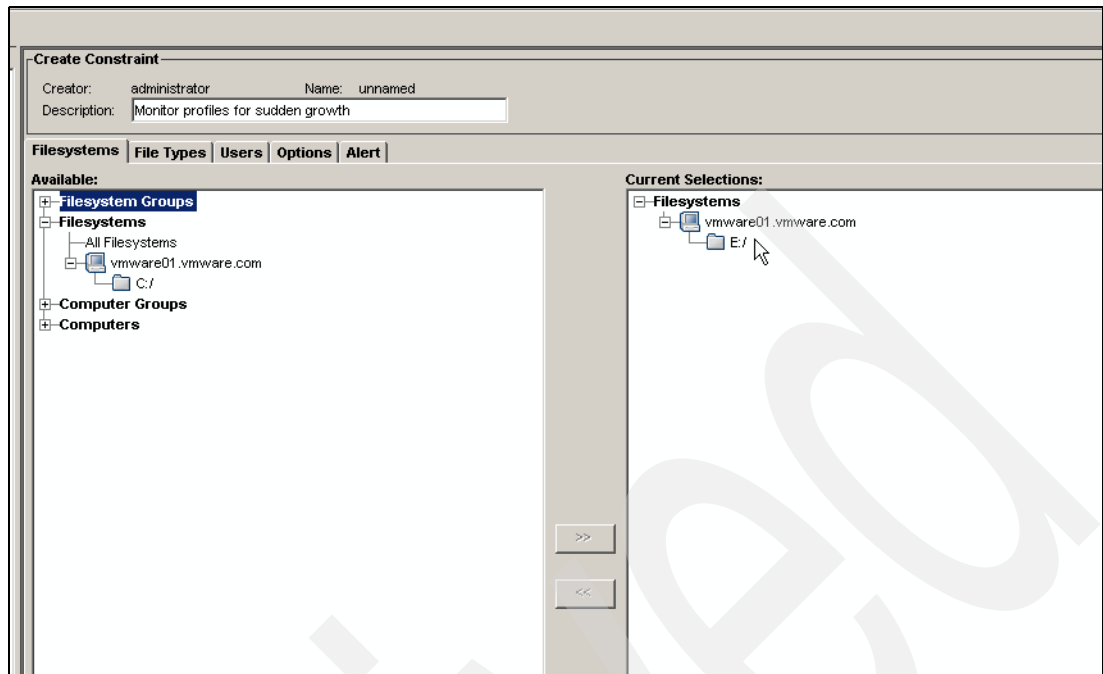

Figure 2-39 Select filesystems for this constraint
2. On the first constraint panel, select the filesystems that contain the profile directories of the users to monitor. Then, give the constraint a meaningful name as in Figure 2-39 on page 43.